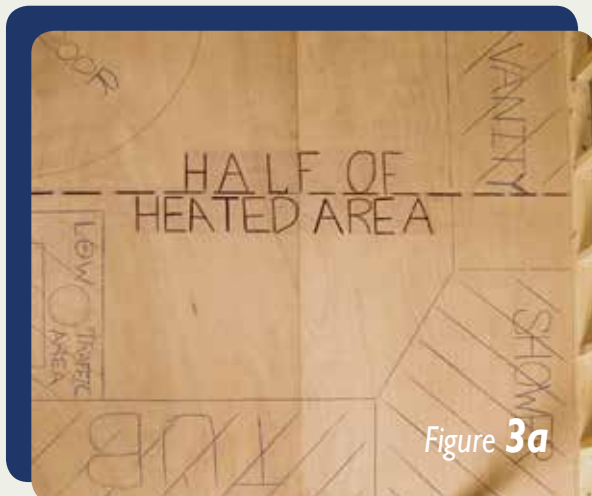

Figure 3a
- Carefully measure and locate the mid-point of the *Heated Area* (NOTE: This may differ from the linear mid-point from one end of the room to the other). This will be a useful reference line later, as it should coincide with the "Half of Cable Marker". Using a chalk line or a heavy-tip marker, straight edge and square, mark the 'half of heated area' line. **(Figure 3a)**